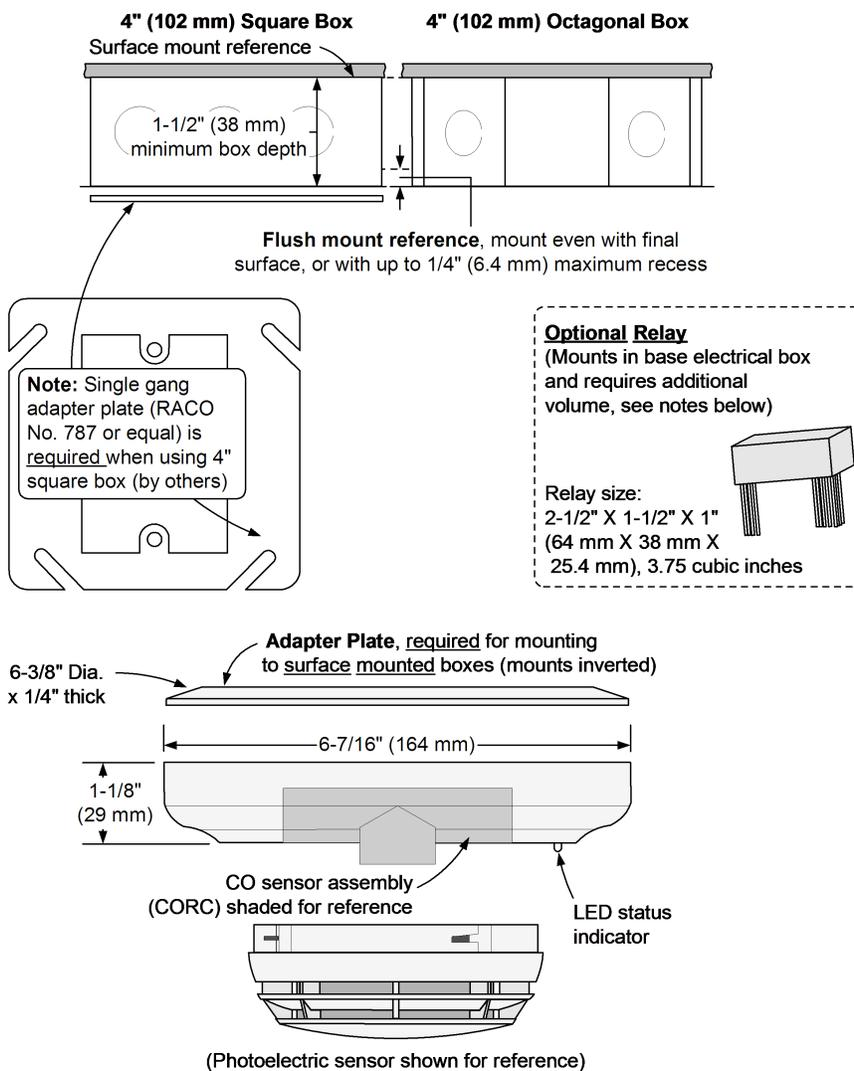

Fig 4: Installation Reference
- Figure 4 shows optional A4098-9822 relay and 4098-9832 adapter plate.